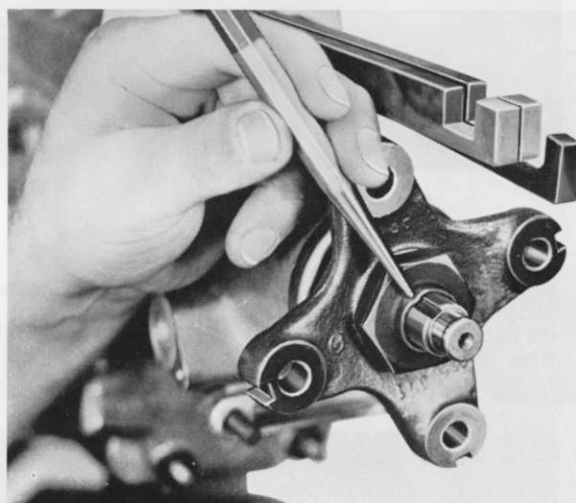

Fig. 60
9. Push the output flange (429) onto the mainshaft. Screw nut (430) onto the thread and tighten to 14 to 16 kpm (for this, 2 gears must be engaged). Tap lock tab of nut with a drift into the groove of the mainshaft (Fig. 60).